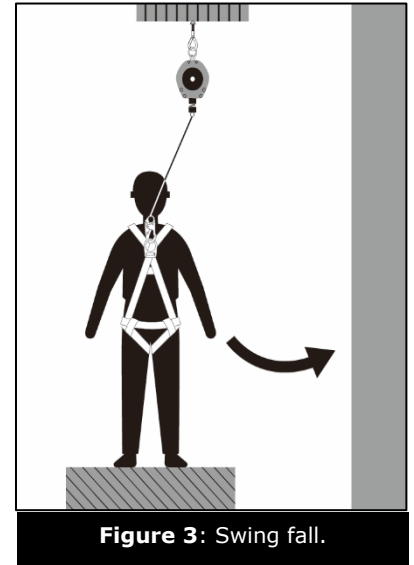

Figure 3: Swing fall.
4.10 SWING FALLS: As shown in Figure 3, swing falls happen when the anchorage point is not directly above the point at which a fall occurs. The resultant force of striking an object in a swing fall may cause serious injury or death. If injury could occur, swing falls are not permitted. To minimize swing falls, the user should work as close to the anchorage point as possible. If the PFAS system involves an SRD or other variable length connecting subsystem, swing falls will significantly increase the clearance required.